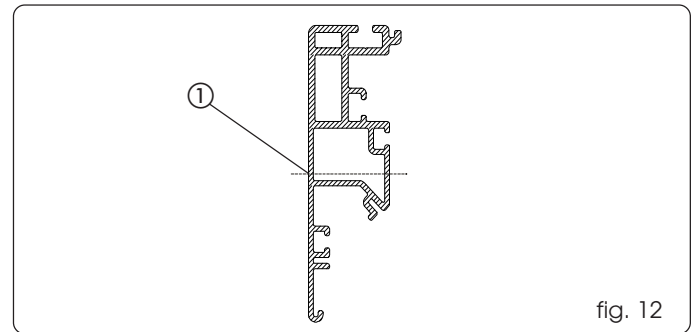

fig. 12
- 3) Drill the necessary holes on the self-supporting profile, in the position shown in fig. 12 ref. ①.